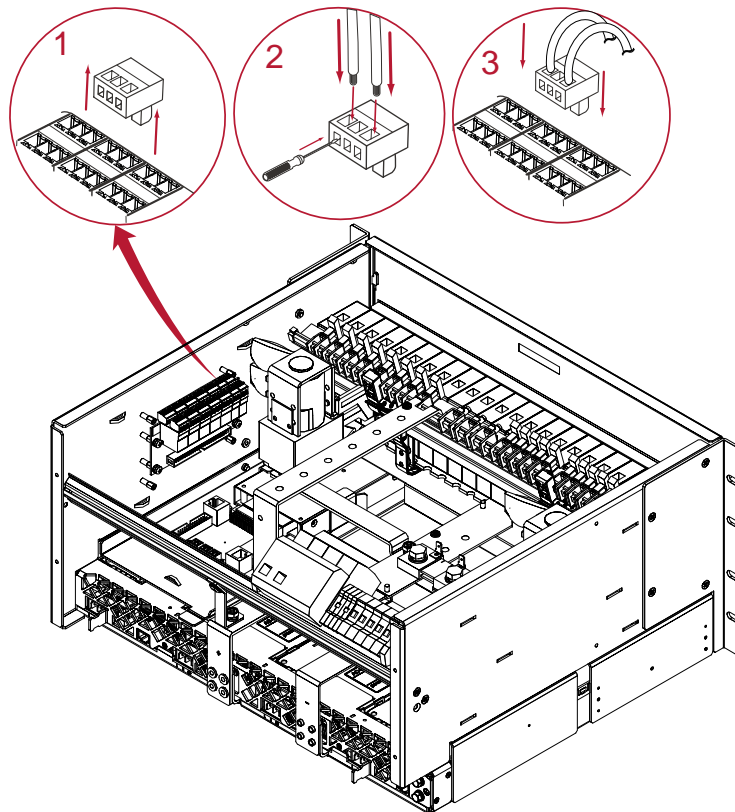

Figure 4-11 Alarm Interface
Alarm connections are positioned on the right side of the PBDU on the Alarm interface board, see Figure 4-11. To connect the alarm cable to the alarm interface board, follow the steps below:
1. Remove the green plug from each connector (Figure 4-11, #1)
4. Insert wire into the openings of green plug and tighten screw to clamp wire (Figure 4-11, #2).
5. Re-insert the green plug with alarm cable into the alarm interface board (Figure 4-11, #3).